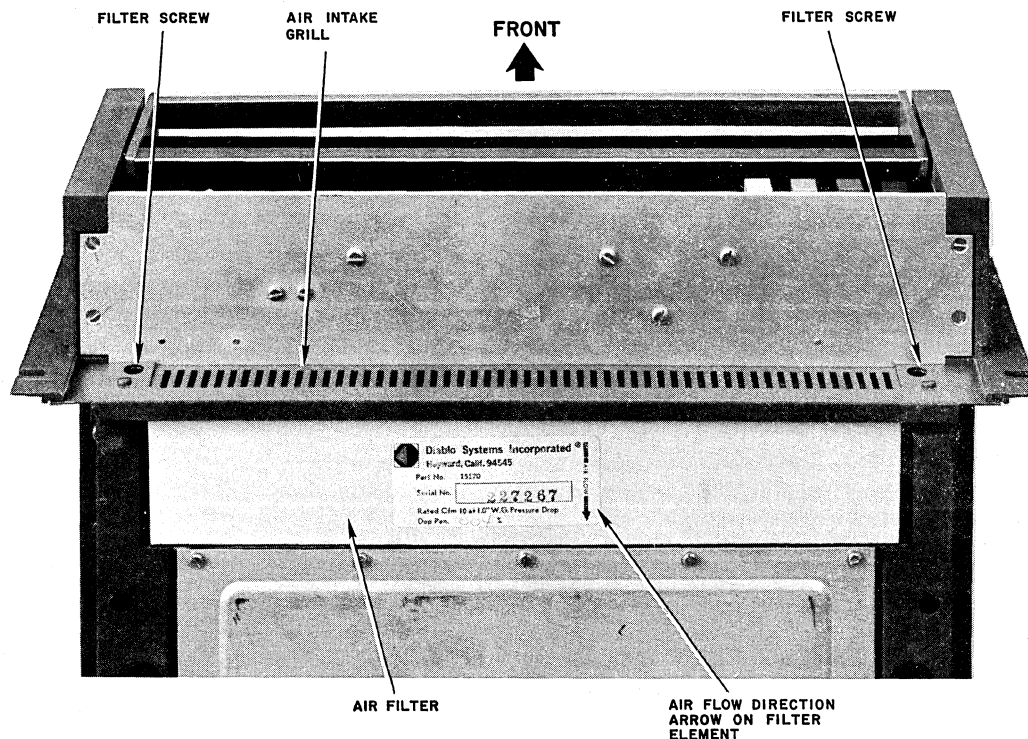

Figure 5-2 AIR FILTER REPLACEMENT
3. Refer to Figure 5-2. Loosen the two "filter screws" to release the filter clamps.